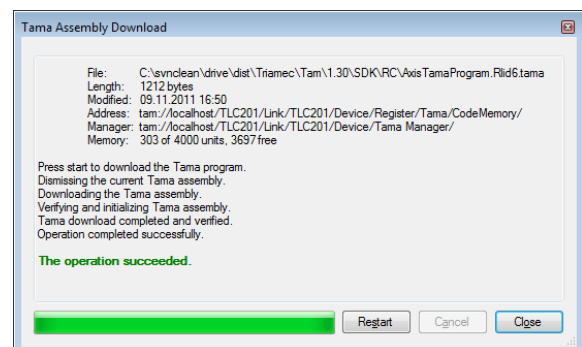

Figure 27: Tama assembly download dialog containing helpful information
2. Click **Assign Tama assembly...** and select a *Tama program* which has the file extension `*.tama`. Click **Open**. A download dialog appears (Figure 27). Press **Start** in order to accomplish the download. After the operation succeeded, press **Close**.